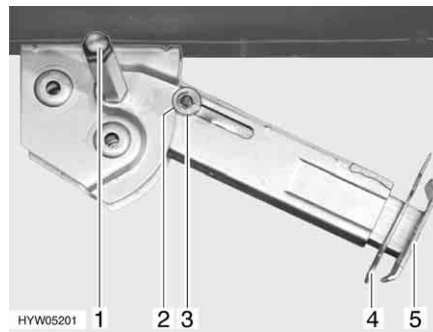

Fig. 37 Steady leg
- Place the socket spanner on the hexagon nut (Fig. 37,1) and rotate until the steady leg is in a perpendicular downward position.
- Remove the splint (Fig. 37,4) out of the support foot extension (Fig. 37,5).
- Place the socket spanner on the hexagon nut (Fig. 37,1) and rotate until the steady leg is clear of the ground.
- Push in the support foot extension (Fig. 37,5) and insert the splint (Fig. 37,4) in the drilled hole in the support foot extension.
- Rotate the hexagonal nut (Fig. 37,1) with the socket spanner until the steady leg has swung upwards and the guide disc (Fig. 37,3) has completely retracted into the notch (Fig. 37,2).